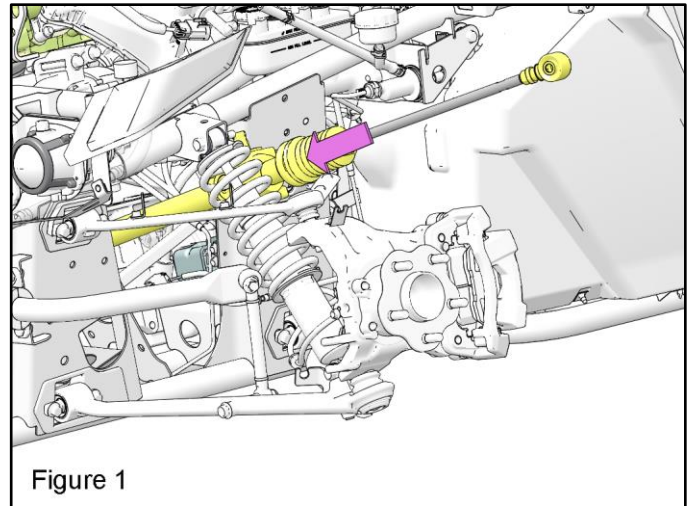
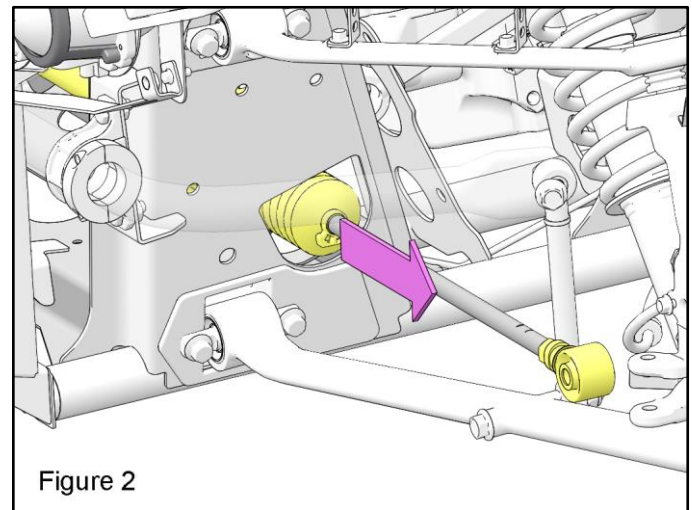

Figure 1
Figure 2
- Align the pinion gear center caps from each rack (A)
- Verify that the outer tie rod ends (B) are in the same position.
15. Install the new steering rack assembly by sliding it into position in the same order by which it was removed. See Figure 1 & Figure 2.